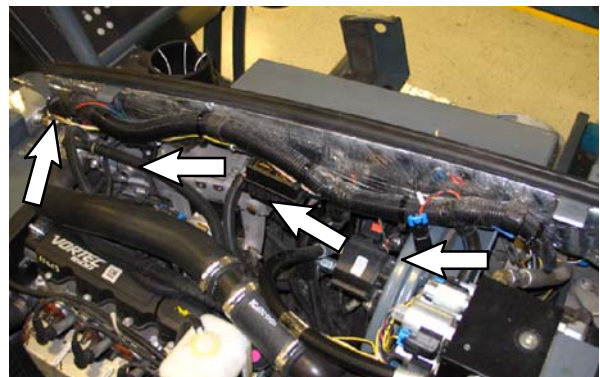

FIG. 7
39. Route the *ec-H20* harness along the bottom of the main wire harness and to the front of the machine. Refer to Fig. 7.